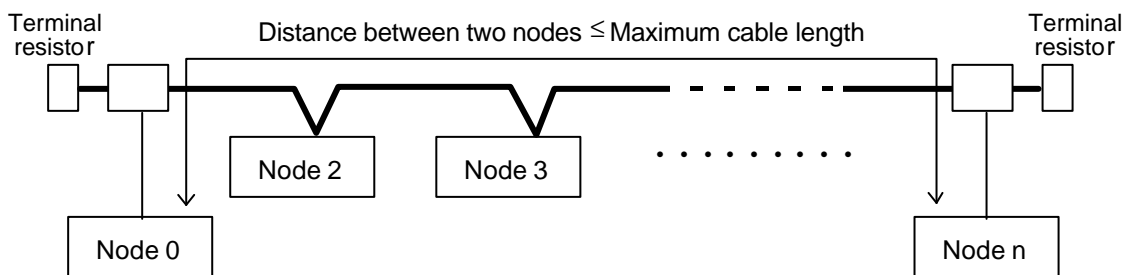

Figure 1.6 Distance Between Two Nodes on a Network with Drop Lines
b) Figure 1.6 shows the **maximum distance between two nodes** in the case that a Thick Cable or Thin Cable alone is used for the trunk line and that drop lines are used. Table 1.2. lists the **maximum cable length**. In this case, the "**maximum trunk line length between two nodes**" is as follows:
For Figure 1.6, the maximum trunk line length between node 0 and node n is equal to the maximum cable length (value in Table 1.2) minus total length of drop lines for node 0 and node n.